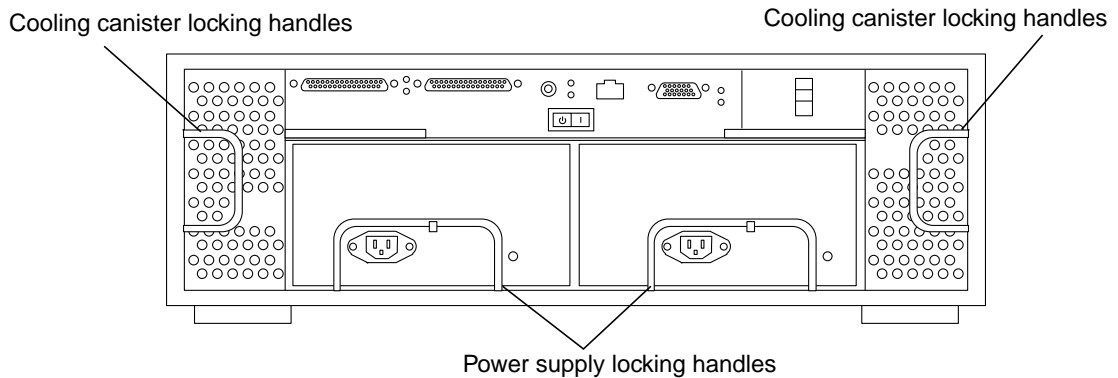
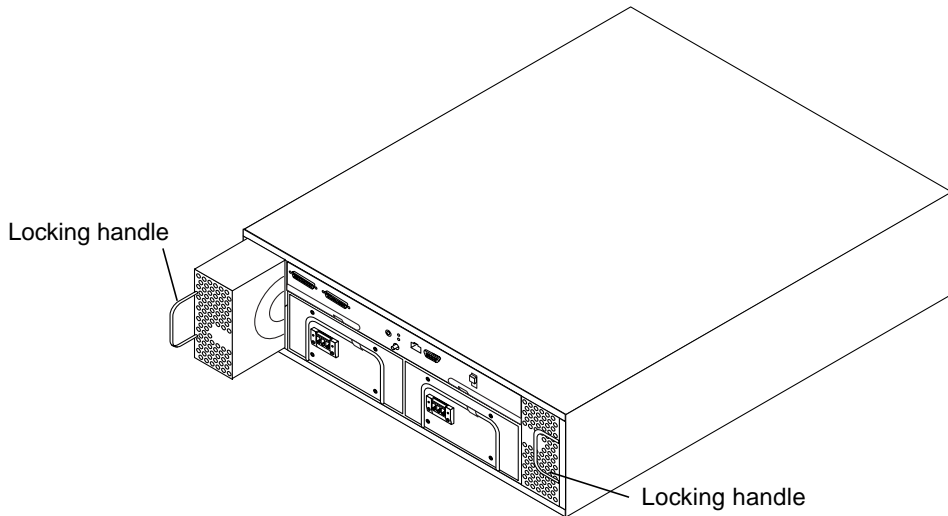

FIGURE 4-2 Rear of Netra st A1000 System
FIGURE 4-3 Removing and Replacing a Cooling Canister
1. **Release the locking handle and pull the cooling canister out (FIGURE 4-2 and FIGURE 4-3).**